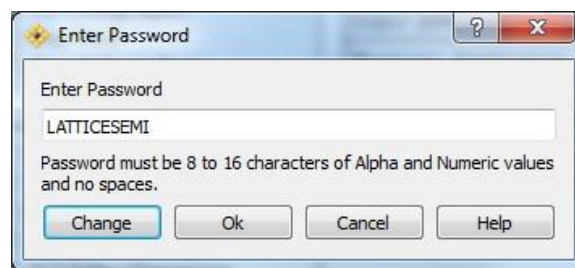

Figure 3.1. Enter Password Dialog Box
1. In the Tools menu, select **Security Settings** to open the passcode file generation tool. The Enter Password dialog opens with a default File Protection Password (file passcode). To enhance password security, change the File Protection Password by clicking **Change**, as shown in Figure 3.1.